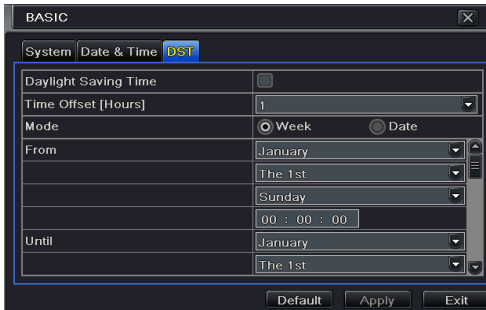

Fig 4-5 Basic Configuration-DST
Step 1: Enter into Menu→Setup→Basic →DST interface. Refer to Fig 4-5: